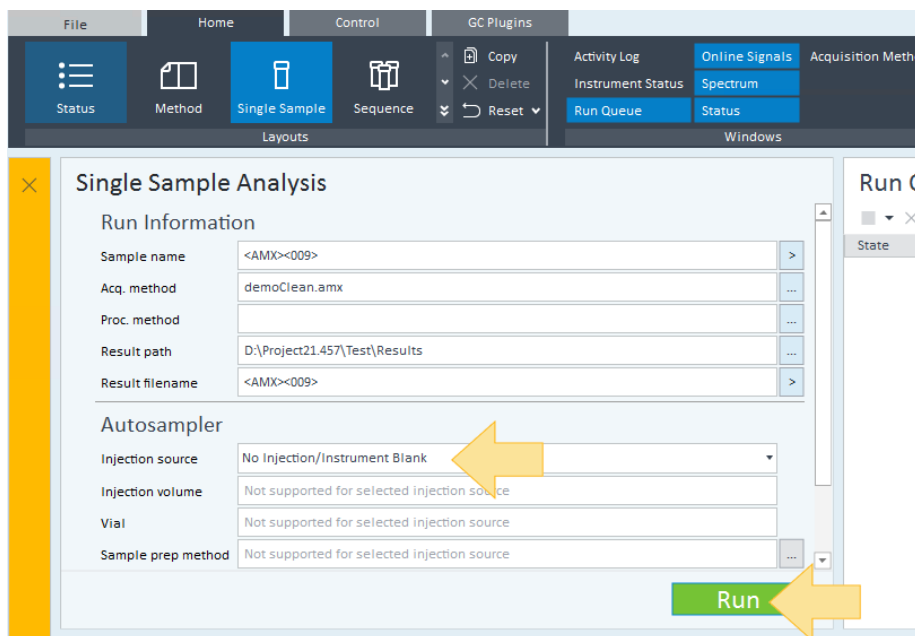

Figure 14. Single Sample window
- 8 For **Injection source**, select **No Injection/Instrument Blank**. This mode tells both the GC and the MS to run the specified method, even though no sample has been included. (See Figure 14 on page 29.)